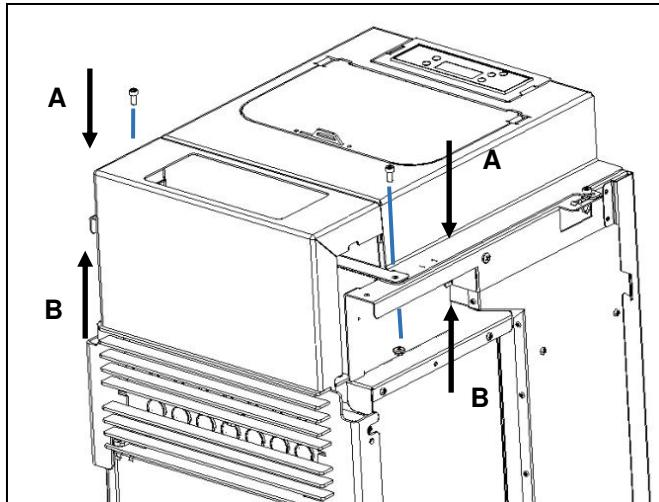

Figure 60 - Finishing front panel grip on equipment Alpes K400
m) Tighten the front end and the trim plate using two screws **A** (DIN 912 M5x12) and two nuts **B** (DIN 6923 M5) in the holes prepared for the purpose see Figure 60.
- n) In order to place the side casings in the case of the Alpes K400, slightly fold outwards some tabs that are at the top in order to facilitate the assembly of the part see figure 60-A. In the case of the Alpes K300, it is not necessary to carry out this process even though it has a slight tab see Figure 61-b.